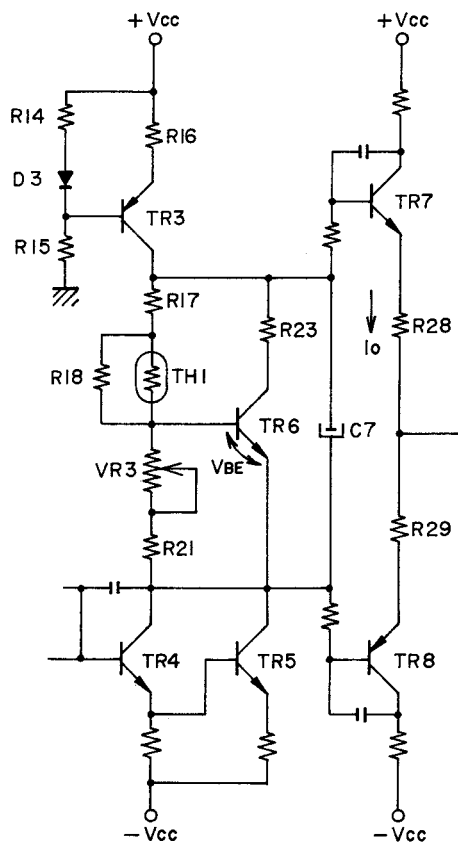

Fig. 6 Idling Current Supply Circuit & Temperature Compensation
2. Idling Current Supply Circuit and Temperature Compensation (Refer to Fig. 6)